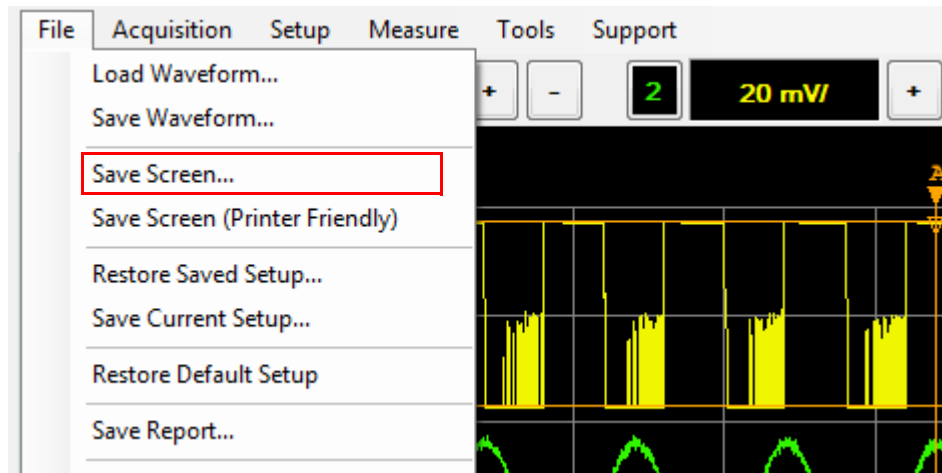

Figure 2-145 Save Screen... selection in the File menu
- 1 Select **File > Save Screen...** on the toolbar to save the screen image as shown in Figure 2-145.